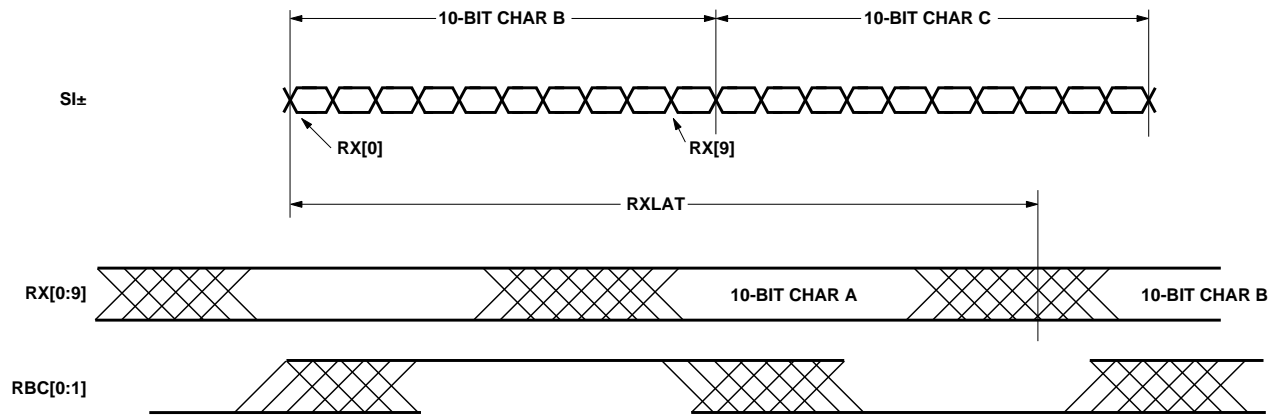

Figure 6. Receiver latency. First bit on SI± drives RX[0].
3. The receiver latency, as shown in Figure 6, is defined as the time between the leading edge of the first received serial bit of a parallel data word and the leading edge of the corresponding parallel output word.